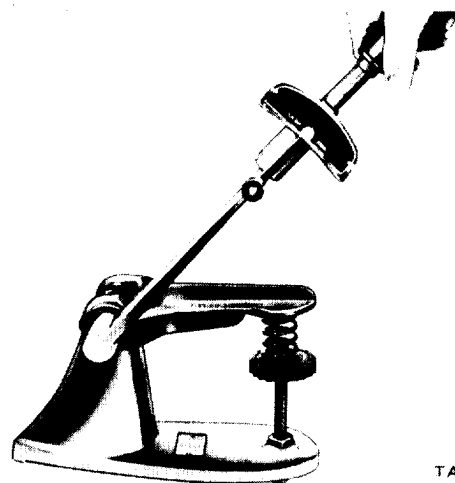

Figure 11-22. Testing Valve Springs,
(1) *Intake valve springs.* Turn the table of the valve spring compression tester (figure 11-22) until the surface is in line with the $1-1/4$ inch mark on the threaded stud, with the zero mark to the front. Place the spring over the stud on the table, and lift the compressing lever to set the tester's tone device. Then pull on the torque wrench until you hear the tone device ping. The reading on the torque wrench at this instant should be 88 to 96 ft-lbs (equivalent to 177 to 192 pounds of pressure).